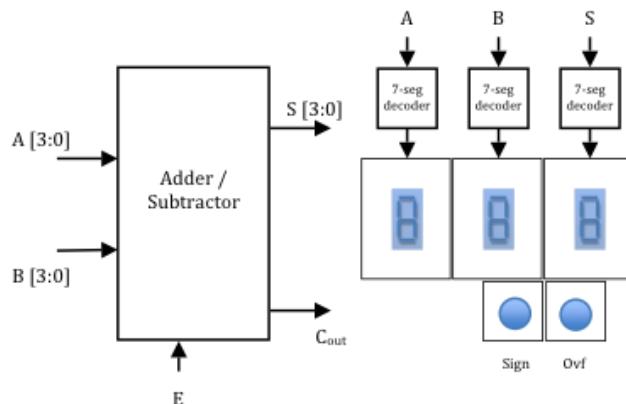

Figure 1. Adder/subtractor system with 7-segment displays.
- Design a 4-bit adder/subtractor unit using the full-adders designed in the previous step plus any other necessary logic gates. This 4-bit adder/subtractor unit will have two 4-bit data inputs (A and B) and a single bit control input (E) that is used to determine the operation of choice ($E=0$ gives $A+B$, $E=1$ gives $A-B$). The unit will have a 4-bit sum output (S) and a single bit carry output (C_{out}). Carry out step 1 for this design.
- Develop the system design that uses the adder/subtractor unit with the 7-segment decoders for A, B and S as depicted in Figure 1. You are expected to show the sign and overflow bits using the decimal points on the 7-segment displays as shown in the figure. Carry out all the steps (1-4) for this design.